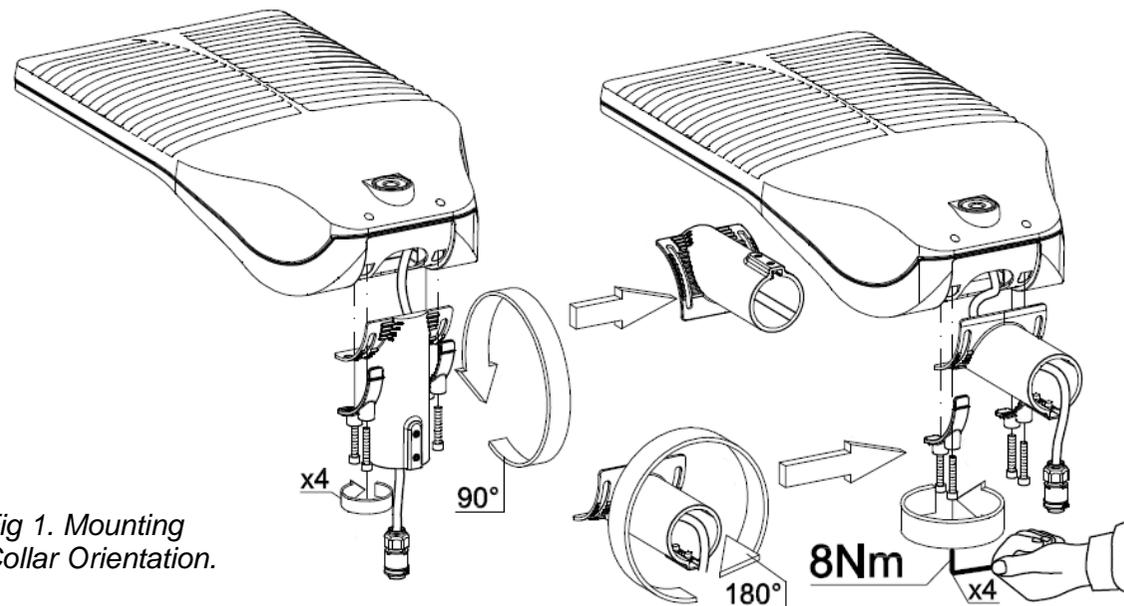

Fig 1. Mounting Collar Orientation.
- Prepare the body for installation in the correct orientation – on a vertical post or horizontal bracket. Remove and re-fit the mounting socket if necessary. (fig 1) If additional electrical feeds are required for Dali control, fit the supplied gland into the body mounting socket at this stage. (fig 2)